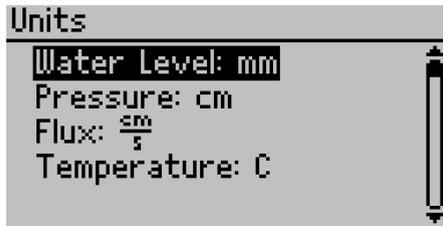

Figure 25 Editing Units options
- **Units.** Edit the preferred units on all device screens and the units that appear in downloaded data (Figure 25).